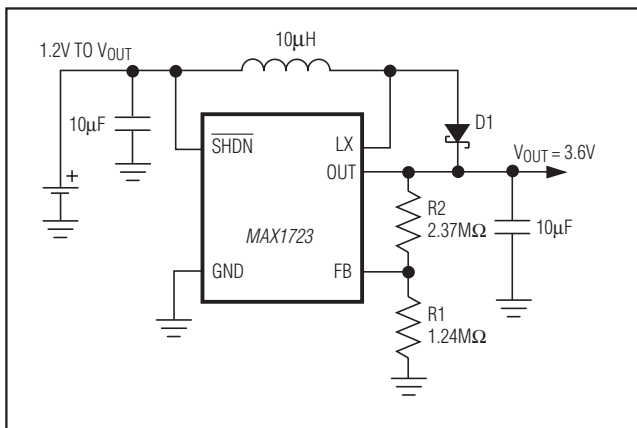
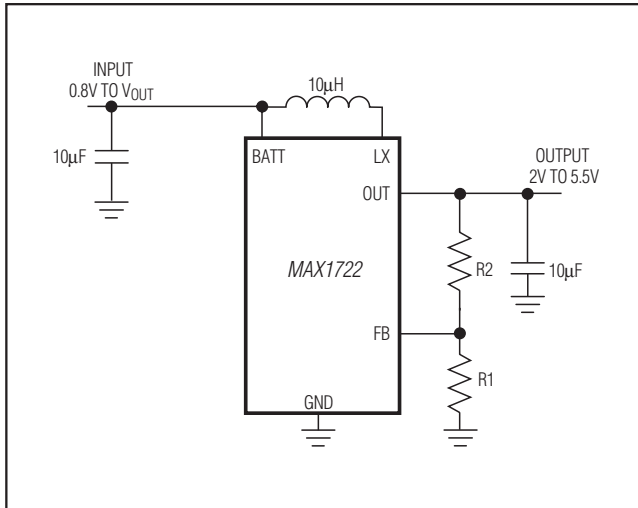
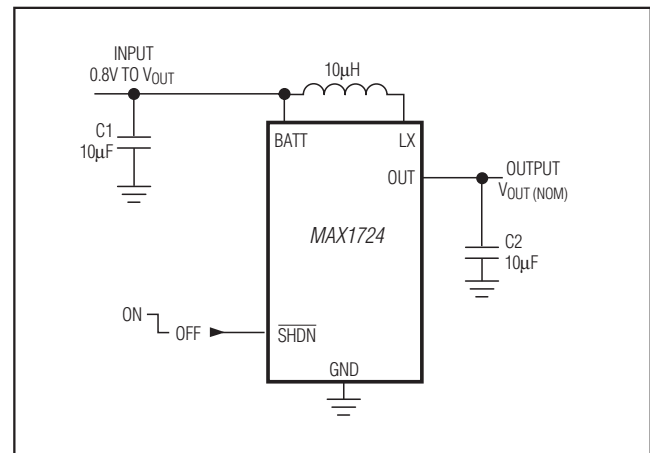

Figure 3. MAX1723 Single-Cell Operation
Figure 7. Adjustable Output Circuit
Figure 8. MAX1724 Standard Application Circuit
**Note 2:** Guaranteed with the addition of a Schottky MBR0520L external diode between LX and OUT when using the MAX1723 with only one cell, and assumes a 0.3V voltage drop across the Schottky diode (see Figure 3).
(Figure 3 (MAX1723), Figure 7 (MAX1722), Figure 8 (MAX1724),  $V_{BATT} = V_{IN} = 1.5V$ ,  $L = 10\mu H$ ,  $C_{IN} = 10\mu F$ ,  $C_{OUT} = 10\mu F$ ,  $T_A = +25^\circ C$ , unless otherwise noted.)
(Figure 3 (MAX1723), Figure 7 (MAX1722), Figure 8 (MAX1724), VBATT = VIN = 1.5V, L = 10 $\mu$ H, CIN = 10 $\mu$ F, COUT = 10 $\mu$ F, TA = +25°C, unless otherwise noted.)
lacks a BATT pin; therefore, this circuit is powered through the OUT pin. Adding a Schottky diode in parallel with the P-channel synchronous rectifier allows for startup voltages as low as 1.2V for the MAX1723 (Figure 3). The external Schottky diode is not needed for input voltages greater than 1.8V. Once started, the output maintains the load as the battery voltage decreases below the startup voltage.
The output voltage can be adjusted from 2V to 5.5V using external resistors R1 and R2 (Figure 7). Since FB leakage is 20nA (max), select feedback resistor R1 in the 100k $\Omega$  to 1M $\Omega$  range. Calculate R2 as follows: